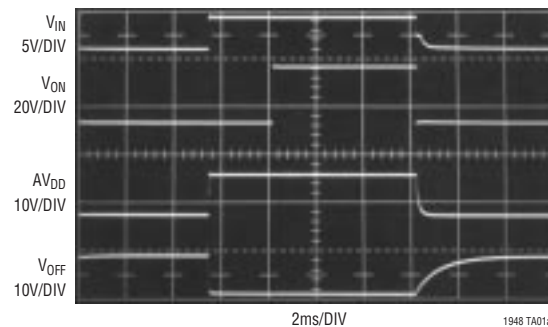

Figure 1. 3.3V Powered TFT-LCD Bias Generator
**SW1 (Pin 3):**  $AV_{DD}$  Switch Node. Connect inductor and D1 here (see Figure 1). Minimize trace area at this pin to keep EMI down.